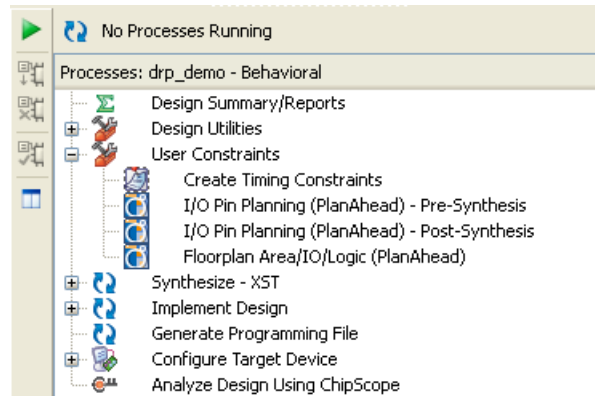

Figure 15-1: Project Navigator Processes Pane
- In the Processes pane, expand **User Constraints** and double-click **IO Pin Planning (PlanAhead) - Pre-Synthesis**, as shown in Figure 15-1, page 419.